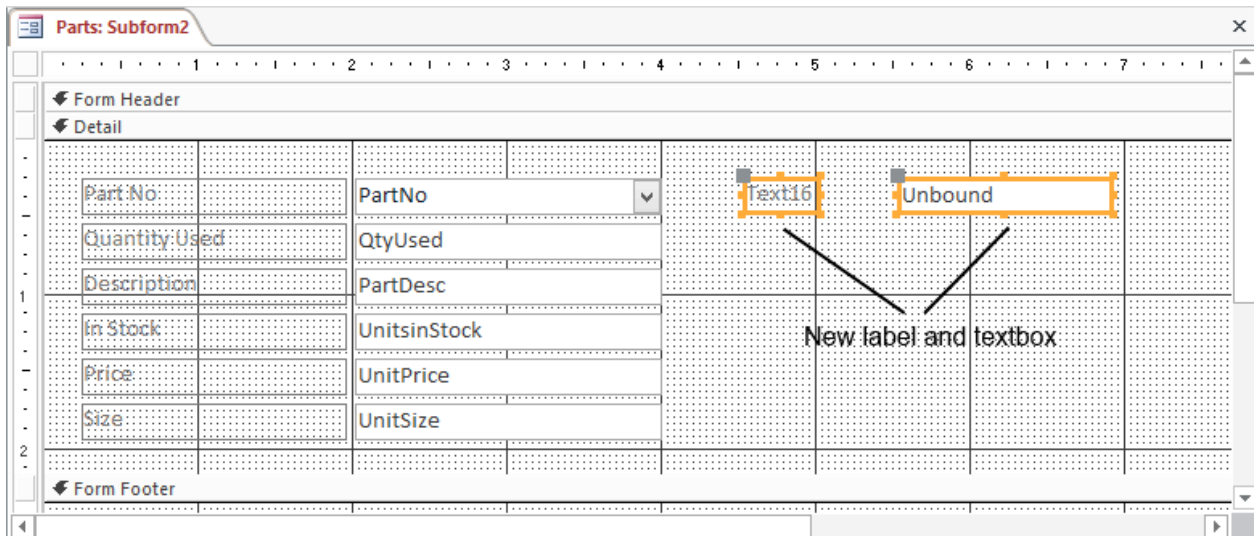

Figure 25: Adding a Textbox to the Subform
2. **Add a Textbox to the Subform:** Drag a new textbox to the form detail section at the right end of the subform. Note that you may have to expand the width of the form detail section to make room for the textbox. The textbox is initially unbound, as shown in Figure 25.